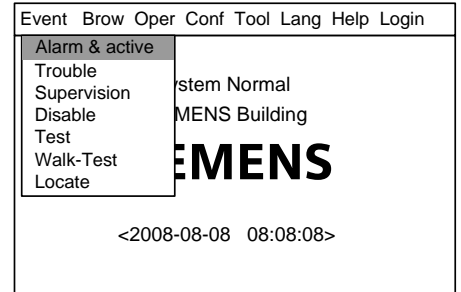

Fig. 34-1
1. Press "Menu" to browse the main menu (Fig. 34-1).